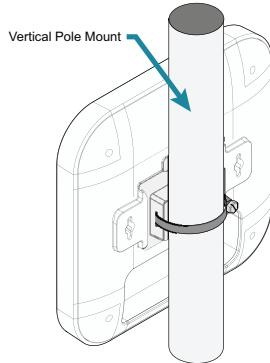

Figure 7. Vertical Pole Mounting of BSAP
- Wrap the hose strap around the vertical mounting pole and insert the end into the strap lock. Tighten the strap lock to secure the unit to the pole as shown in Figure 7.